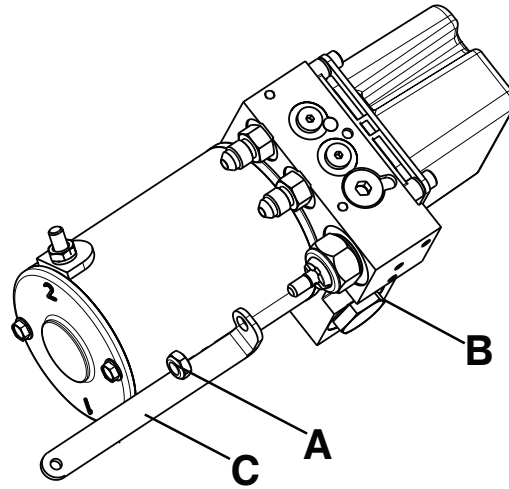

Figure 38 – Non-locking manual valve
5. Using a 7/16" deep well socket and 3/8" drive ratchet, remove the Nylock hex nut (A) that secures the non-locking manual valve (B) to the manual release link (C) (Figure 38). Save the nut.
- Note** - Place a 1/16" hex wrench through the slot on the non-locking manual valve (B) to keep the valve from turning (Figure 38).
6. Using a 7/8" deep well socket and 3/8" drive ratchet, remove the non-locking manual valve (B) (Figure 38). Discard the valve.